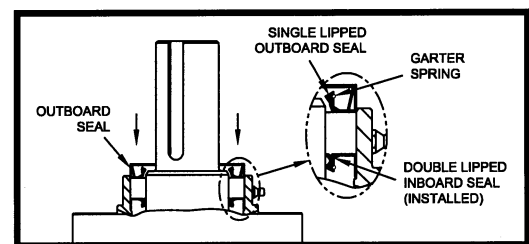

Figure 6.2.2.5 Orientation of Outboard Seal for Installation
11. Place the ring on the seal. Reference Figure 6.2.2.6.